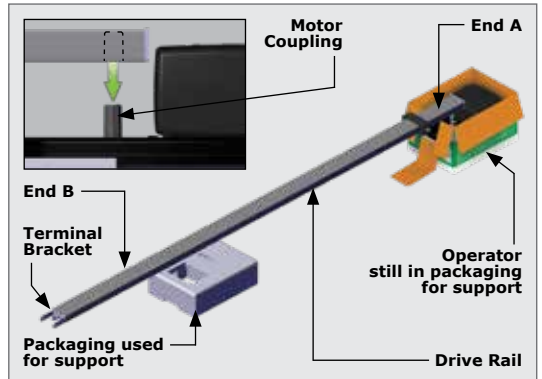

FIGURE 7
2. Orientate the Drive Rail as shown in Figure 7, and fit 'End A' over the motor coupling found on the motor.